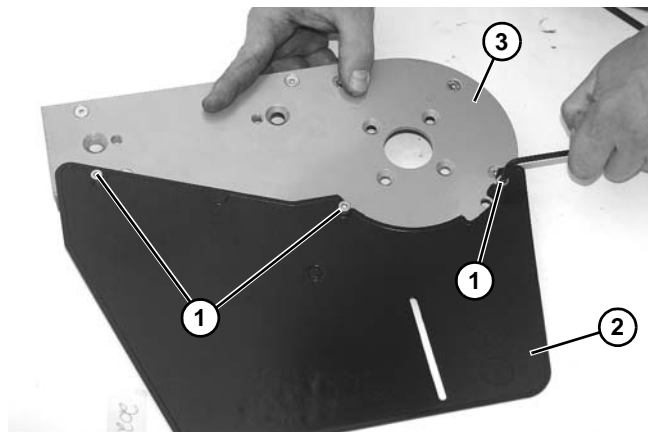

Figure 53
2. Remove three socket head screws (Figure 53, item 1) and remove drive plate guard (Figure 53, item 2) from drive plate (Figure 53, item 3).